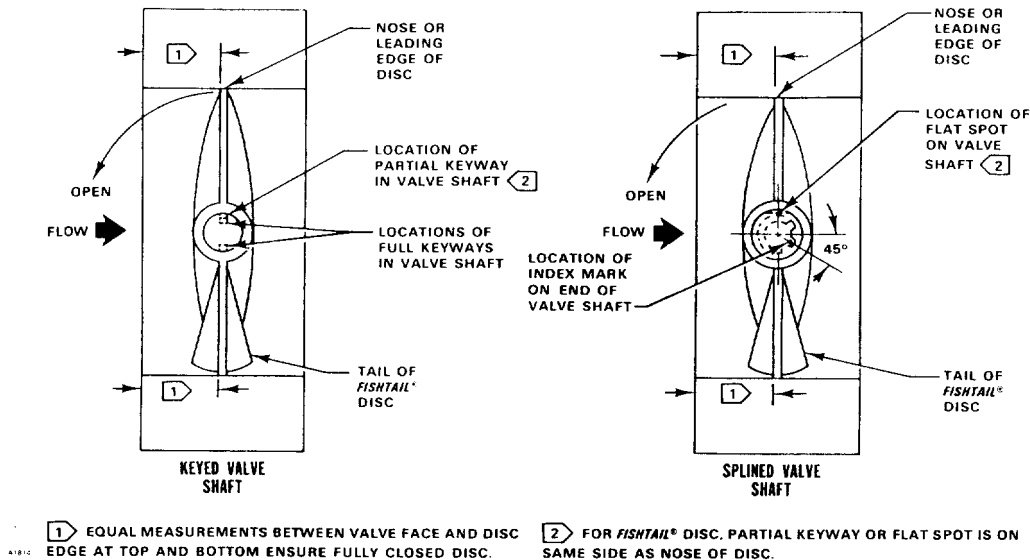
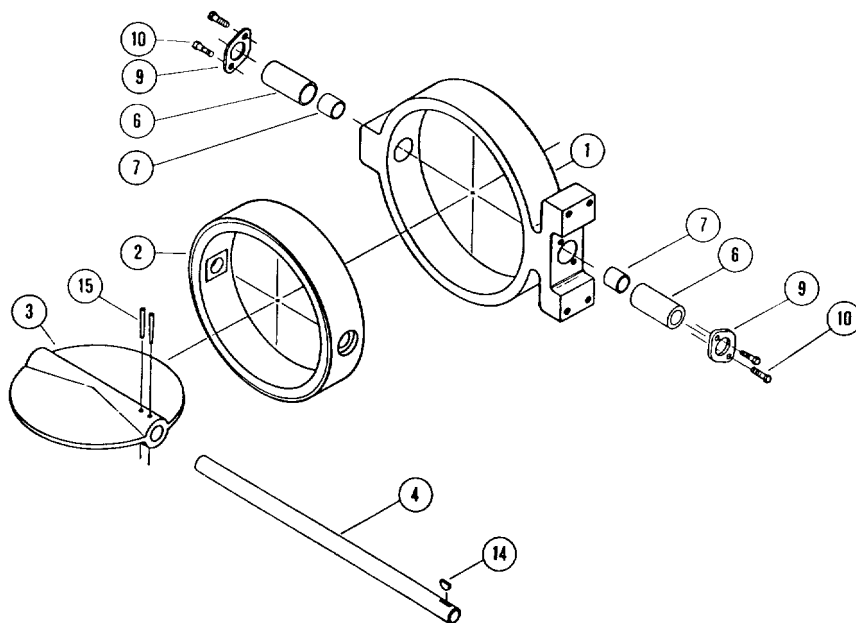
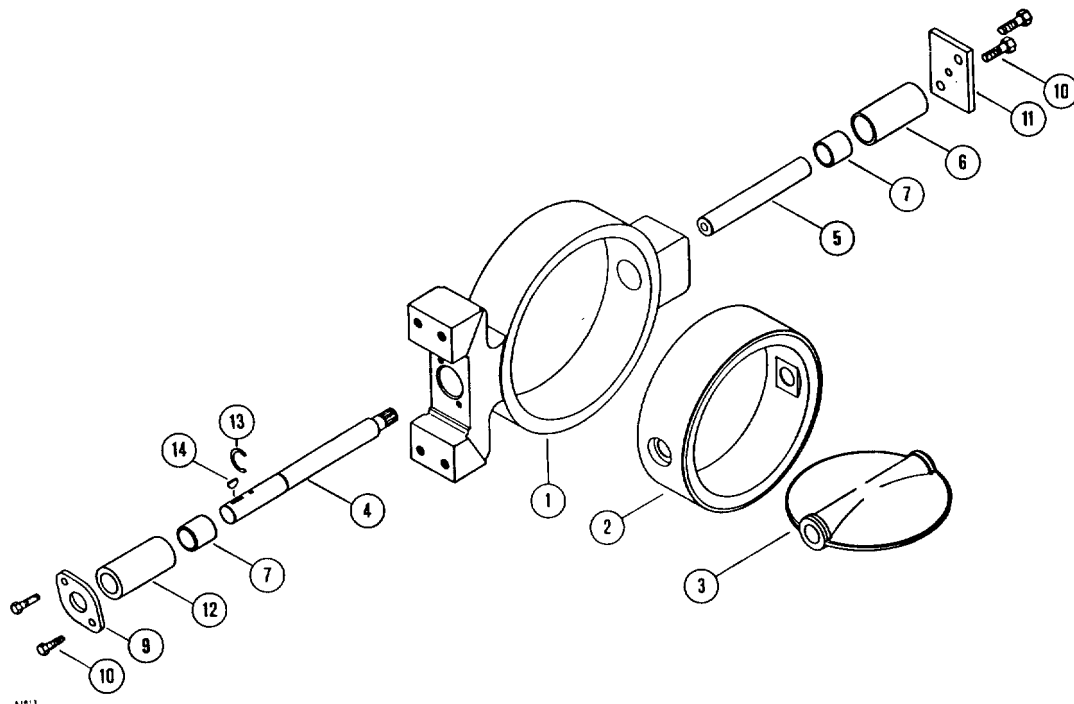

Figure 2. Valve Shaft Marking
Figure 5. Uncoated Disc Construction with Keyed Valve Shaft
Figure 6. Coated Disc Construction with Keyed Valve Shaft
FLOW DIRECTION	Conventional Disc: Either direction Fishtail Disc: Tail of disc (as shown in figure 2) to open into downstream side of valve
5. For conventional discs, flow may be in either direction; for Fishtail discs, flow direction must be such that the tail of the disc (as shown in figure 2) will rotate into the downstream side of the valve.
To check the linkage adjustment, refer to figure 2. On the valve shaft (between the valve and actuator) is a partial keyway (keyed valve shafts) or a flat spot (splined valve shafts). This keyway or flat is cut in the same plane as the disc edge. For Fishtail discs, the keyway or flat is on the same side of the shaft as the nose or leading edge of the valve disc (as shown in figure 2). When the valve disc is at the 0-degree position, the keyway or flat will be either
top-dead-center or bottom-dead-center in relation to the valve body. The top-dead-center position is shown in figure 2. A more accurate check of the 0-degree disc position can be obtained by removing the valve from the pipeline.
With the valve removed from the line, position the actuator to the valve-closed end of travel. Measure the distance between the valve face and the top and bottom edges of the disc as shown in figure 2. The disc is at the 0-degree position if the two measurements are equal.
- c. Remove disc (key 3) from body. For 8, 10, and 12-inch sizes, remove the spacer that was located between power and idler shafts in the disc.
6. Remove bushing sleeves (key 6, figure 5; keys 6 and 12, figure 6) from body. If desired to replace bushing inserts (key 7), remove old bushing inserts from sleeves.
7. Remove liner (key 2) from body.
1. If new bushing inserts (key 7) are to be used, press new inserts into bushing sleeves (key 6, figure 5; keys 6 and 12, figure 6).
2. Insert liner (key 2) into body. A small amount of silicone grease applied to the outside surface of the liner will aid insertion of the liner. However, do not use grease if the valve is to be used for oxygen service.
c. Insert disc (key 3), bushing sleeves (key 6, figure 5; keys 6 and 12, figure 6), bushings (key 7), and shaft (key 4) into the body. Be sure bushings engage the liner recesses to ensure proper liner positioning. Rotate disc to closed position.
3. Insert bushing sleeves and bushings into body. Be sure that the bushings enter the liner recesses to align the shaft holes. This can be accomplished by temporarily inserting the shaft(s) (key 4, figure 5; keys 4 and 5, figure 6).
4. For uncoated discs only, complete the following lettered steps. A new disc and shaft should be installed if the taper pin holes have been widened by loosening of taper pins (key 15).
If a new shaft (without disc) has been purchased, be sure to mark the shaft to indicate disc position as shown in figure 2.
Be certain that the partial keyway, flat, or zero mark on the end of the shaft is positioned as shown in figure 2.
e. Install disc and shaft into body. Be sure the keyed or splined end of the shaft is on the actuator side of the body, that the direction of taper in the taper pin holes match, and that the partial keyway or flat spot is positioned as shown in figure 2.
a. Insert disc (key 3) into body. Be certain the female disc spline is on the actuator side of the body. Position the disc at the closed position.
b. Making certain the partial keyway, flat, or spline marking is positioned as shown in figure 2, install C-ring (key 13) on drive shaft (key 4) and insert drive shaft into actuator side of body and disc.
d. Insert idler shaft (key 5).
6. Attach thrust plates (key 9, figure 5; keys 9 and 11, figure 6) with cap screws (key 10). When tightening cap screws, do so in small increments, alternating from one cap screw to another and from one valve side to the other. Tighten cap screws until thrust plates contact the bushing sleeves snugly. Then, rotate the cap screws enough to move the thrust plates 1/32 inch closer to the valve body.
1. Rotate the valve disc to the closed position. To ensure that the disc is fully closed, measure the distances between the valve face and the top and bottom edges of the disc as shown in figure 2. The disc is at the 0-degree position when the two measurements are equal. Rotate the disc slightly if necessary to make the measurement equal.